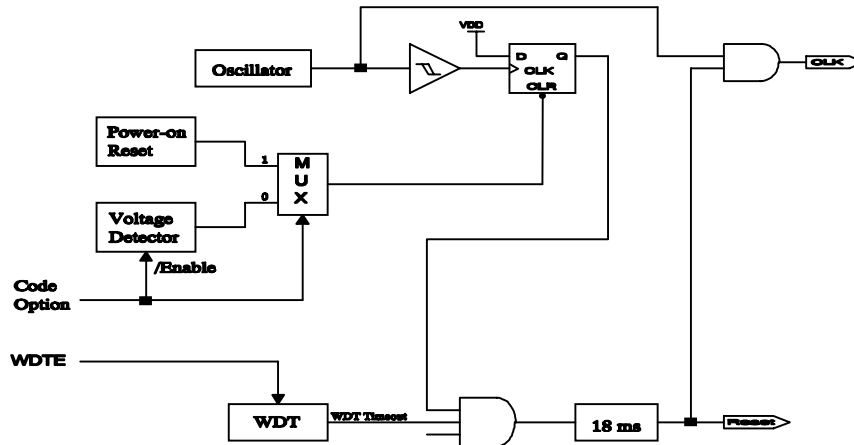

Fig. 8 Block diagram of Reset of controller
(1) Power on reset, or Voltage detector
(2) WDT timeout. (if enabled and in GREEN or NORMAL mode)
Note that only Power on reset, or only Voltage detector in Case(1) is enabled in the system by CODE Option bit. If Voltage detector is disabled, Power on reset is selected in Case (1). Refer to Fig. 8.